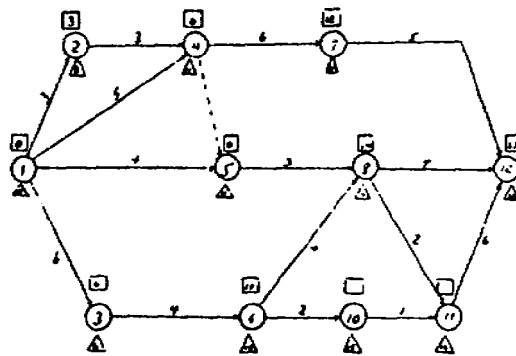

Figure 4-5. For use, with exercises 2 through 5.
2. What is the time span during which activity 7-12 may be performed in figure 4-5?
3. What is the time span during which activity 5-8 may be performed in figure 4-5?
4. Activity 8-12 has a time span of days 15 through 22 (fig 4-5). What would the consequence be if it were to begin prior to day 15?
5. What would the consequence be if activity 7-12 was not completed until day 23 in figure 4-5?
| 2. b (figure 4-5 of the solution) | 12. b (page 2-18) |
| 3. c (figure 4-5 of the solution) | 13. a (page 4-9 of the solution) |
| 4. d (figure 4-5 of the solution) | 14. d (page 4-9 of the solution) |
| 5. d (figure 4-5 of the solution) | 15. c (page 2-21) |